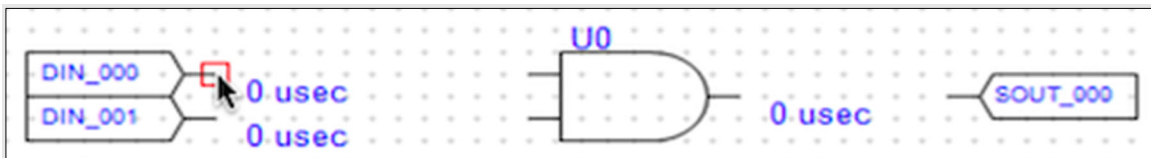

Figure 78 - Starting a New Connection
- 1) Left-click the first block's pin. A large red rectangle is shown if the cursor is on a valid connection point (Figure 78 - Starting a New Connection).